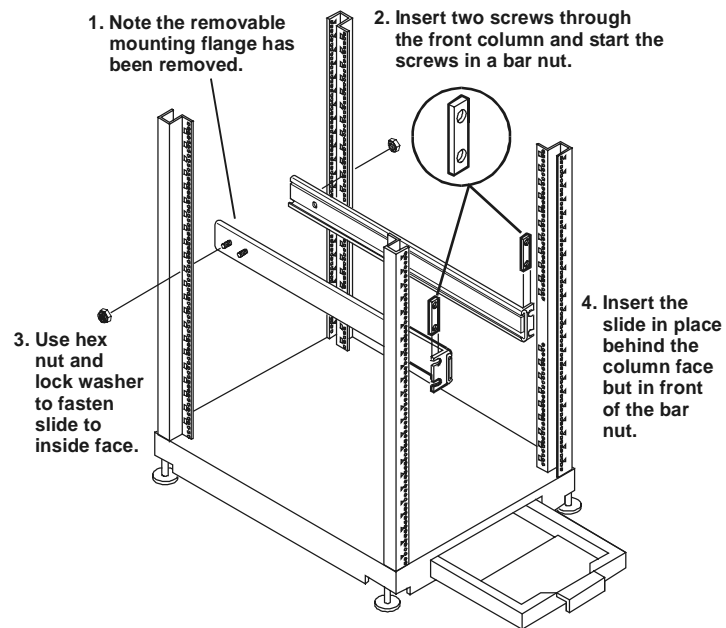

Figure 13-5. Attaching the Slides
16. Hold the slide so the slide members extend out the front of the rack (see Figure 13-5).